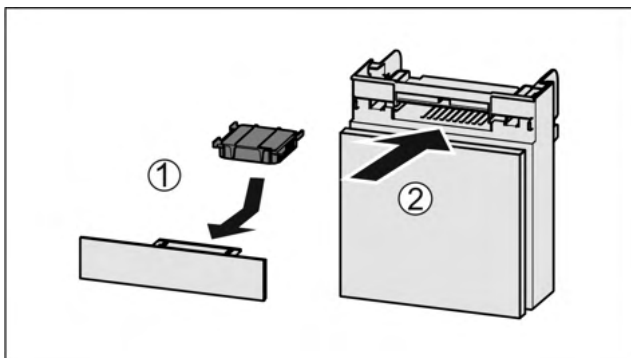

Fig. 161
- ▶ Insert the carbon filter as shown in the diagram Fig. 161 (1).
- ▶ Push the compartment in Fig. 161 (2).